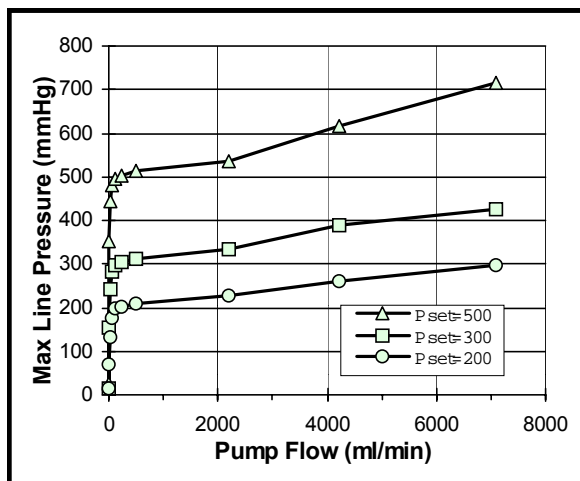

Figure 4. With the arterial tubing completely clamped, typical maximum line pressure at different pump flows and set pressures when using the Better-Header™.
- 7) Attach a syringe to the stopcock of the Compliance Chamber and use it to pressurize the chamber to the desired housing set pressure. The PRV housing pressure should be set to 100 mmHg above the maximum desired operating pressure in the arterial line. Exceeding a housing set pressure of 500 mmHg is not recommended. See Figure 4 for nominal maximum line pressure at different pump flows for different set pressures.
Typical pressure-flow characteristics of the PRV for three housing set pressures (Pset) are shown in Figure 4. Even at maximum flow and a completely occluded arterial line, line pressure at the outlet of the pump is limited to 200 mmHg above the housing set pressure. To limit shunting through the PRV, the housing pressure should nominally be set to 100 mmHg above the maximum operating pressure desired in the arterial line. For example, if the user wishes to limit operating pressure to 400 mmHg, the housing pressure should be set to 500 mmHg.